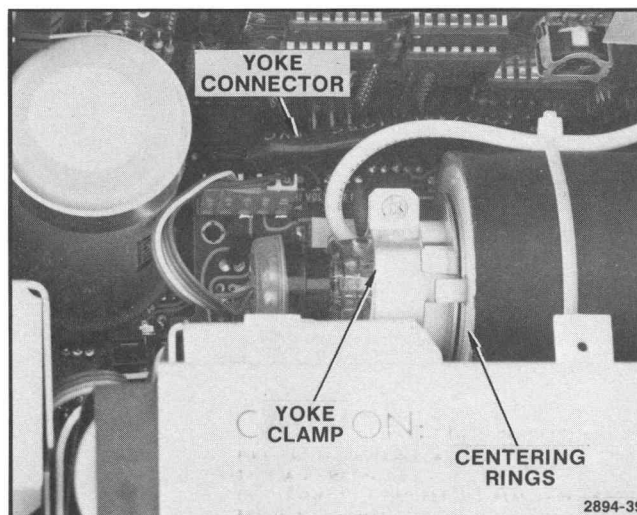

Fig. 4-10. Spot-centering and focus adjustments.
c. Loosen yoke clamps (Fig. 4-10).
b. Disconnect yoke cable by disconnecting P4144 (Fig. 4-10).
c. Set 413A MONITOR button in (ON).
d. **ADJUST**—Centering rings for a centered spot on crt. See Figure 4-10.
f. Set 413A MONITOR button out (OFF) reconnect yoke cable, and set 413A MONITOR button in (ON).